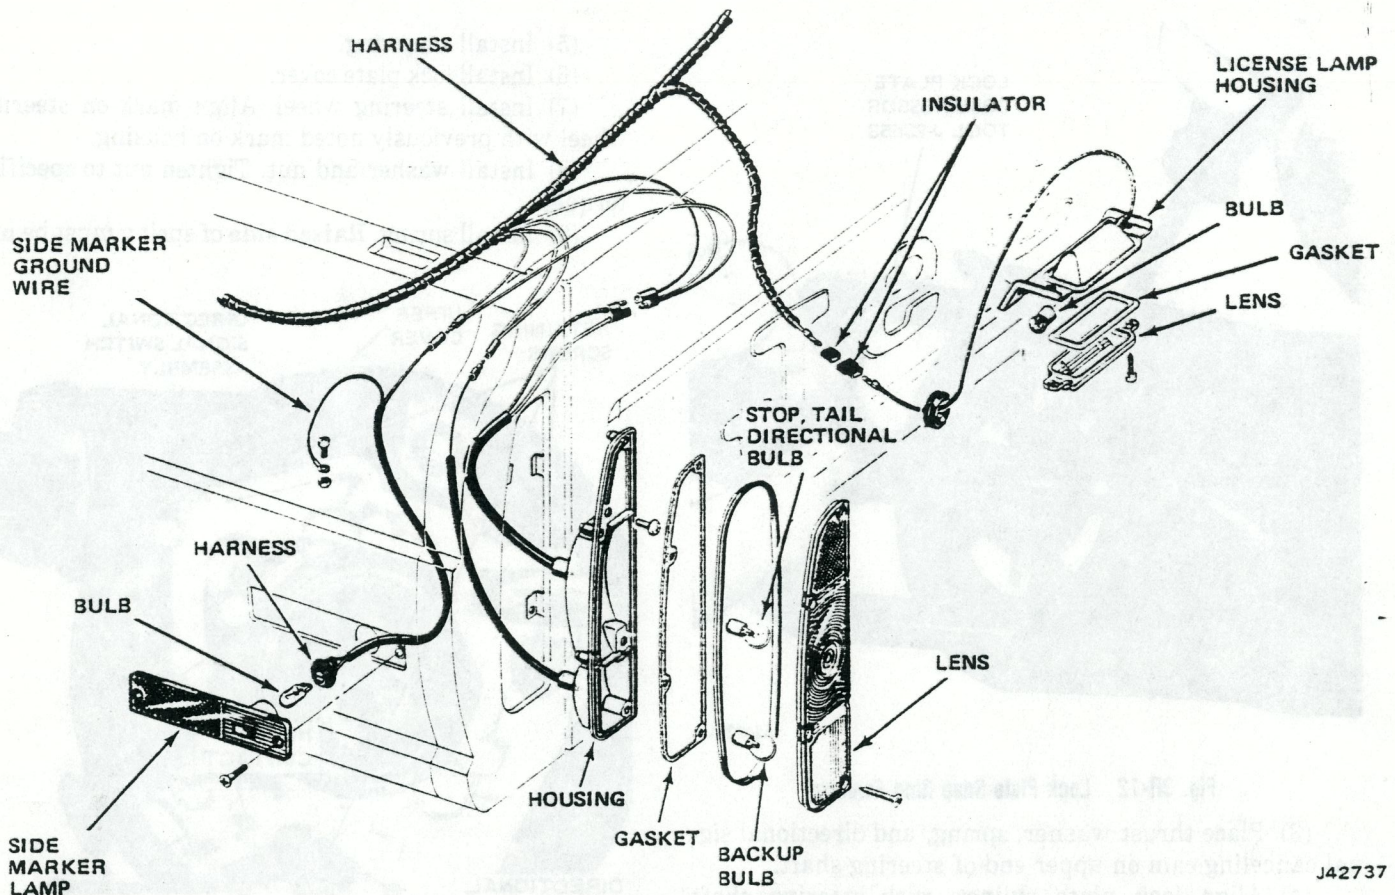

Fig. 3R-10 Rear Directional, Stop, Backup, Taillamps and Side Marker—Townside Truck
- (5) Remove steering wheel with Steering Wheel Puller J-21232-01.
- (6) Lift lock plate cover.
- (7) Use Lock Plate Compressor Tool J-23653 to depress lock plate (fig. 3R-12).
- (8) Pry round wire snap ring from steering shaft groove.
- (9) Remove Lock Plate Compressor Tool, snap ring, lock plate, directional signal canceling cam, upper bearing preload spring and thrust washer from steering shaft.
- (10) Place directional signal actuating lever in right turn position and remove lever.
- (11) Depress hazard warning light switch, located on right side of column adjacent to the key lock, and remove button by turning in a counterclockwise direction.
- (12) Remove directional signal wire harness connector block from its mounting bracket on right side of lower column.